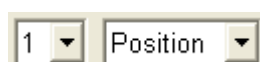

Figure 13-4 Setting a channel, and selecting **Position** or **Speed**
- ① The users can select the channel or the station address corresponding to an axis in the left drop-down list box of the axis, and select **Position** or **Speed** in a right drop-down list box, as shown in figure 13-4.